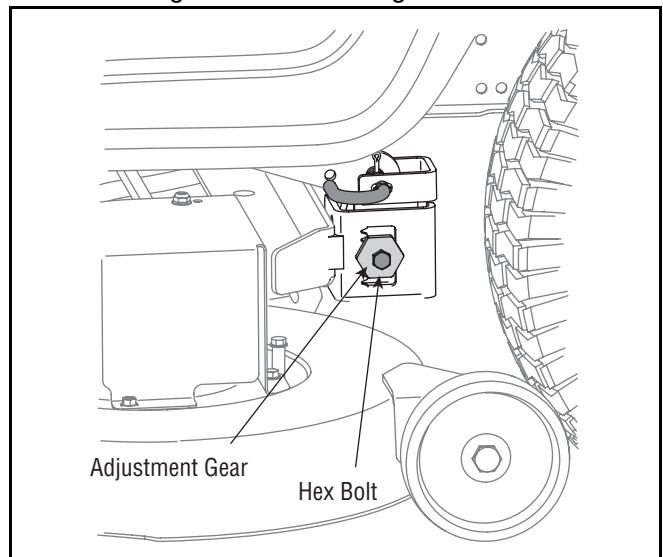

Figure 10
3. Loosen, but do NOT remove, the hex bolt on the left deck hanger bracket. See Figure 10.
4. Balance the deck by using a wrench to turn the adjustment gear (See Figure 10) up or down.